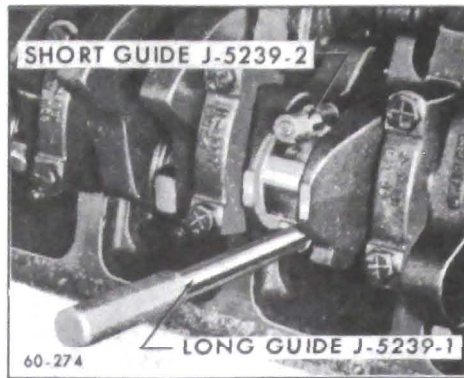

Figure 60-137--Connecting Rod Bolt Guides Installed
4. Remove cap and bearing shell from #1 connecting rod. Install connecting rod bolt guides on the bolts to hold the upper half of the bearing shell in place. See Figure 60-137.